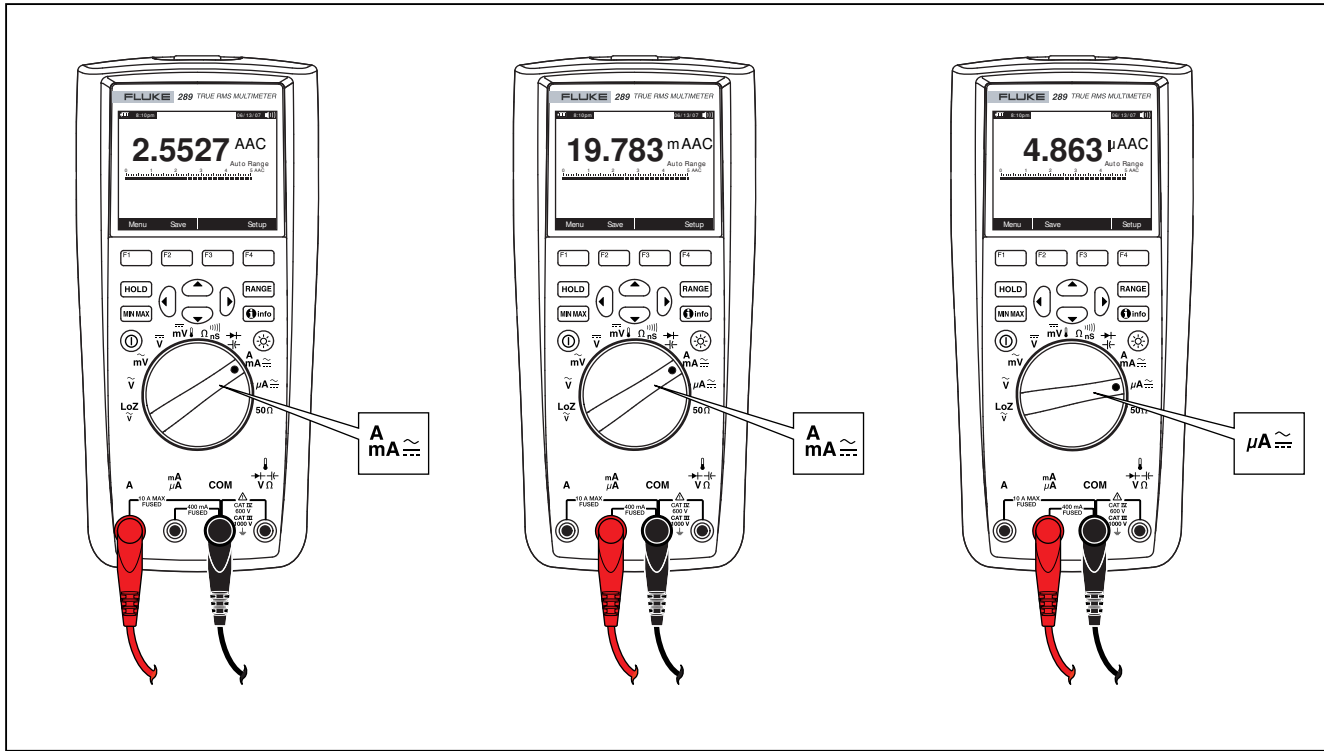

Figure 21. Current Measurement Setup
3. If you are using the **A** terminal, set the rotary switch to **A**. If you are using the **mA/μA** terminal, set the rotary switch to **μA** for currents below 5000 μA (5 mA), or **mA** for currents above 5000 μA. See Figure 21 for test lead connections and function selection. Refer to the "Input Alert Feature" section for information on the alerts the Meter uses when leads are not used correctly for current measurements.